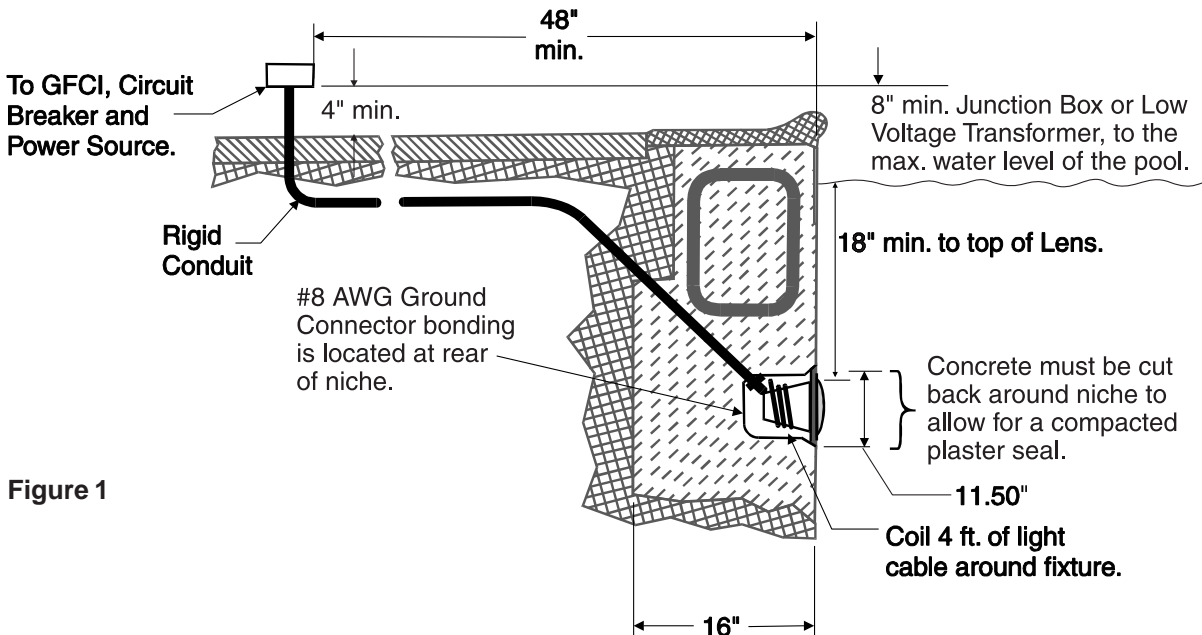

Figure 1
BEFORE STARTING: The following steps (1-6) describe the tasks that must be completed by the electrician before the IntelliBrite light fixture is installed. See Figure 1 diagram.
- The Junction Box (or, for 12 volt models, the low voltage transformer) is located at least 8 inches above the maximum water level of the pool and at least 48 inches from the edge of the pool; see Figure 1.
- The wet niche is properly installed so that the top edge of the underwater light's lens is at least 18 inches below the surface of the water in the pool; see Figure 1. (Not more than 20" depth in Canada.)
- The wet niche is properly electrically bonded and grounded via the No. 8 AWG ground connector located at the rear of the niche; see Figure 1.
1. Feed cord through conduit to Junction Box, leaving at least four (4) feet of cord at the light fixture to coil around the light; see Figure 1. This four (4) feet of cord around the light allows the light to be serviced after the pool is filled with water.
- The Junction Box (or, for 12 volt models, the low voltage transformer) is located at least 8 inches above ground level and at least 48 inches from the edge of the pool; see Figure 1.
- The wet niche is properly installed so that the top edge of the underwater light's lens is at least 18 inches below the surface of the water in the pool; see Figure 1.
5. Leave at least four (4) feet of cord to coil around the light fixture; see Figure 1 on page 2. This four (4) feet of cord coiled around the light allows the light to be serviced after the pool is filled with water.
6. Cut the cord at the Junction Box, leaving at least size (6) inches of cord to make connections.
7. Strip six (6) inches of the outer cord jacket from the cord to expose the three insulated wires – be careful not to damage the insulation on the three inner wires.
**WARNING** - Never operate this underwater light for more than ten (10) seconds unless it is totally submerged in water. Without total submersion, the light assembly will get extremely hot, which may result in serious burns or in breakage of the lens. This may result in serious injury to pool users, installers, or bystanders, or in damage to property.
10. Fill the pool until the IntelliBrite underwater LED pool light is completely submerged in water before operating the light for more than ten (10) seconds. Switch on main switch or circuit breaker, as well as the switch which operates the underwater light itself to verify that the light is operating correctly.